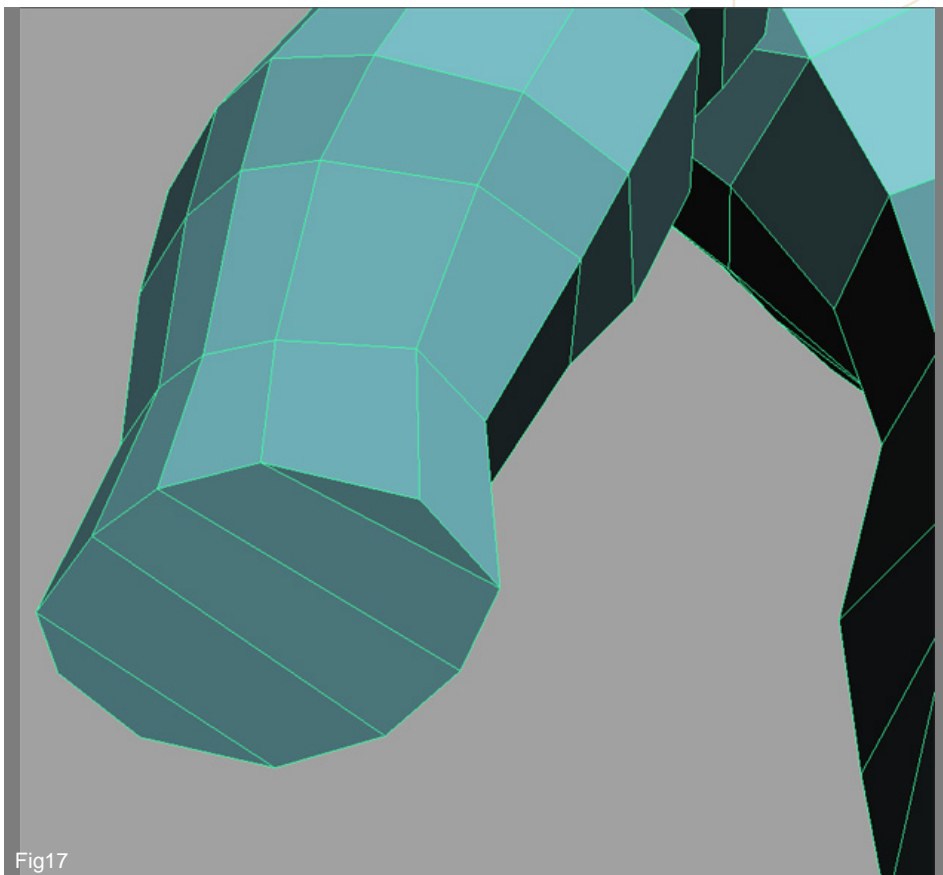

Fig17
17. As we did for the foot we're going to fill the hole using the "Fill hole" tool (Fig17). Also, don't forget to add 4 more edges using the "Split Polygon Tool" for next step - building the palm.